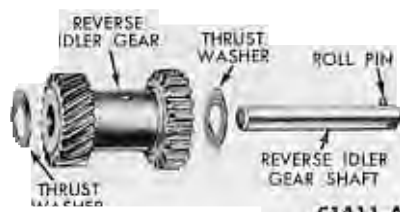

FIG. 11—Reverse Idler Shaft and Gear—Disassembled
The countershaft (cluster) gear and thrust washers (Fig. 11) can be lowered to the bottom of the case. Remove the countershaft from the rear of the case.
20. Driving from the front of the case, remove the reverse idler gear shaft from the case and then lift the reverse idler gear and two thrust washers (Fig. 11) from the case.
2. Coat the reverse idler gear thrust surfaces in the case with a thin film of lubricant and position the two thrust washers (Fig. 11) in place.